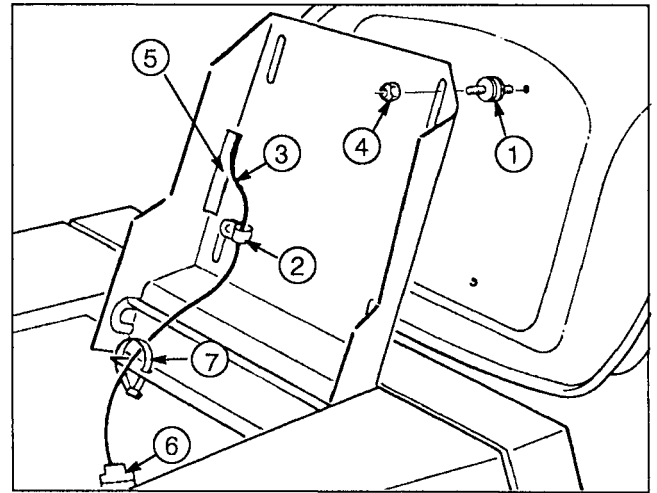

Figure 3
1. Thread (4) seat spacers into bottom of seat (Fig. 3).
2. Position seat onto seat base, inserting seat switch cable thru slot and spacer studs thru mounting holes (Fig. 3).
3. Slide wire clamp over seat switch wire (Fig. 3).
4. Using left front spacer stud, loosely secure wire clamp and seat to seat base with a locknut (Fig. 3).
5. Mount seat to seat base with (3) remaining locknuts.